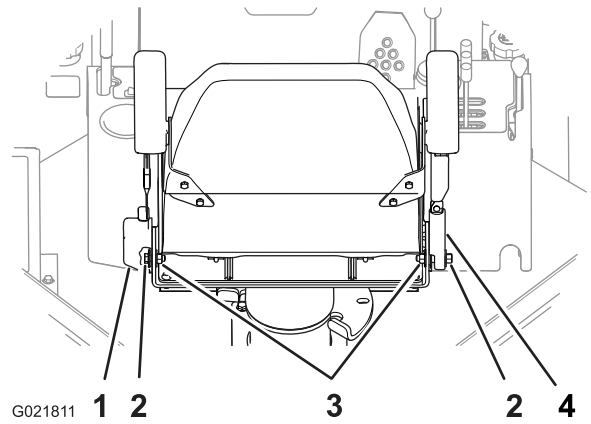

Figure 96
3. Check that the bolts and nuts that attach the seat-belt retractor and buckle to the seat are torqued to 7.8 to 9.6 N-m (69 to 85 in-lb); refer to Figure 96.